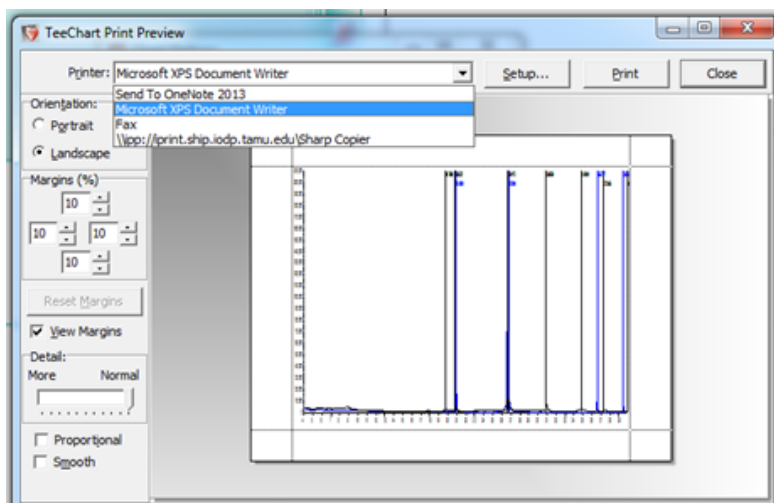

Figure 25. Print Window with Printer drop-down highlighted
3. Select the drop-down menu to select a printer. Choose 'Microsoft XPS Document Writer' to get a digital image of the graph (*Figure 25*). Then select 'Print'.